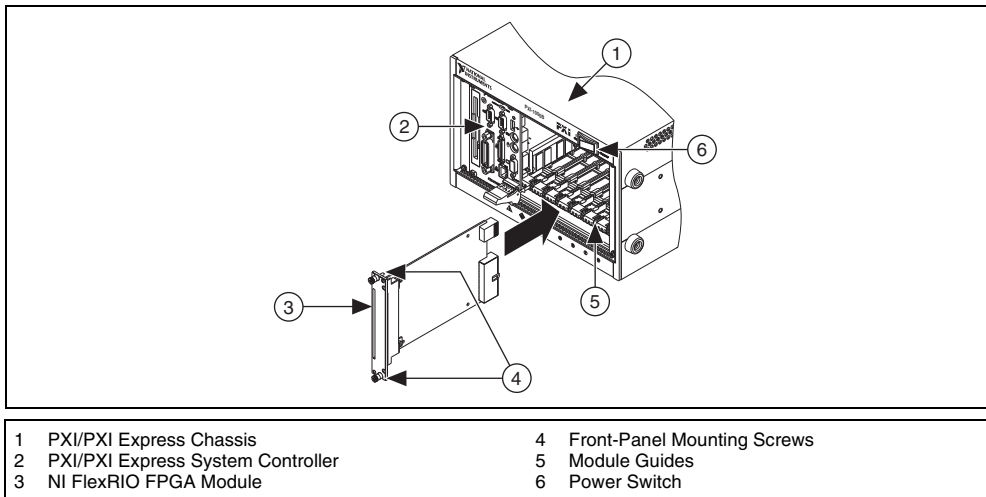

Figure 3. Installing an NI FlexRIO FPGA Module in the PXI/PXI Express Chassis
5. Place the PXI/PXI Express module edges into the module guides at the top and bottom of the chassis, and slide the module into the chassis until the module is fully inserted, as shown in Figure 3.